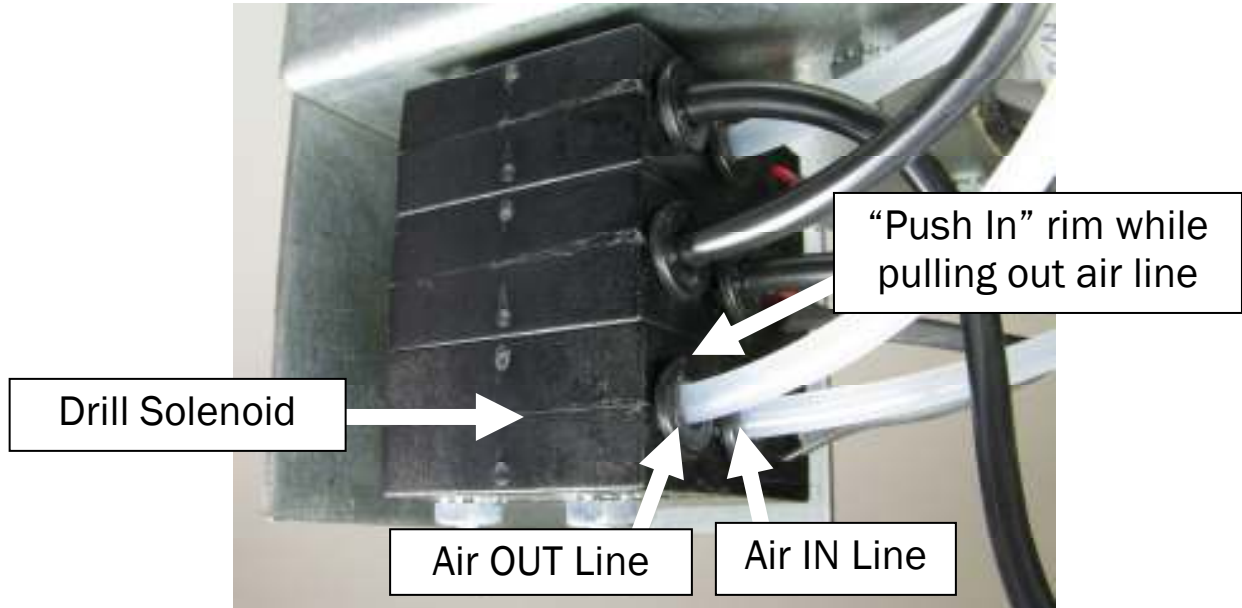

Figure 21
1. **Disconnect power and air from the machine.** Remove both air lines from the Drill Solenoid. **See fig. 21.**